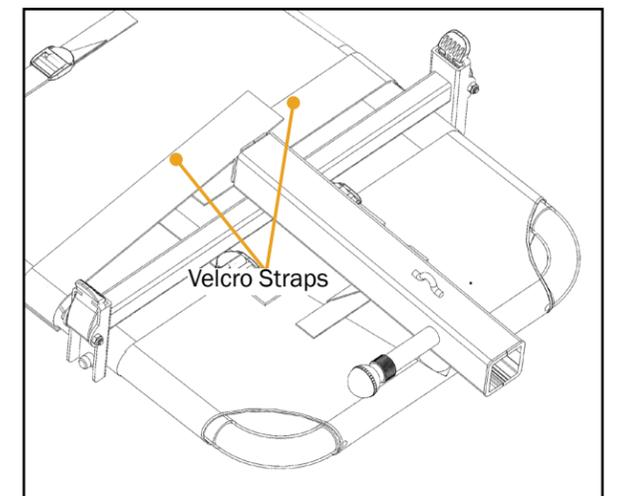

Figure 17
- Lay the pillow on the table at the desired height and fasten using the Velcro straps attached (Figure 17).